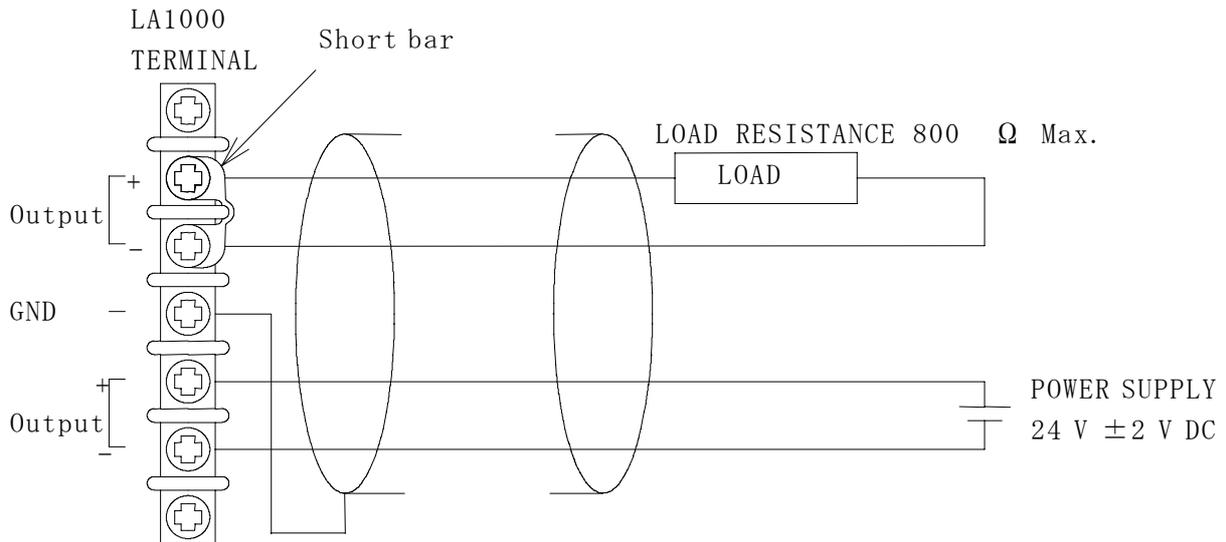

Fig. 8 Wiring
(1) Connect digital ammeter (measuring range ; 4 to 20 mA DC) to output terminals reference with Fig. 8.
(2) When the liquid level is zero, adjust 4 mA DC with ZERO volume.